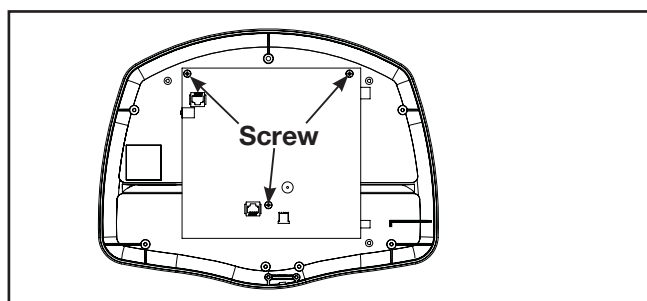

Figure 13
- A. Using a Phillips screwdriver, remove the three screws securing the main display PC board to the front console cover. See Figure 13.
- F. Using a Phillips screwdriver, reattach the three screws securing the main display PC board to the front console cover. See Figure 13.